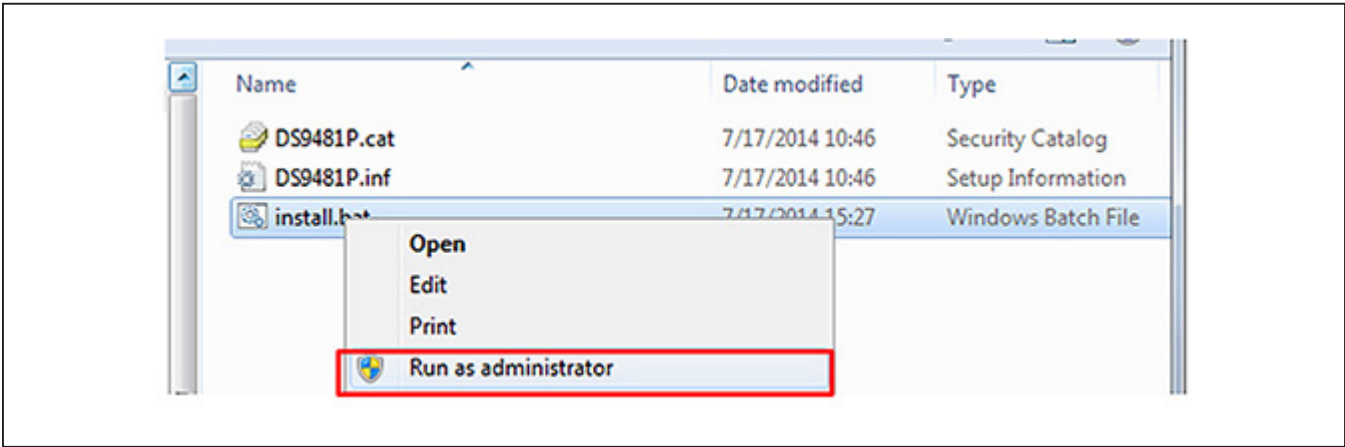

Figure 5. Device Driver Installation
- 6) Right-click on **install.bat** and then choose **Run as administrator** (Figure 5).